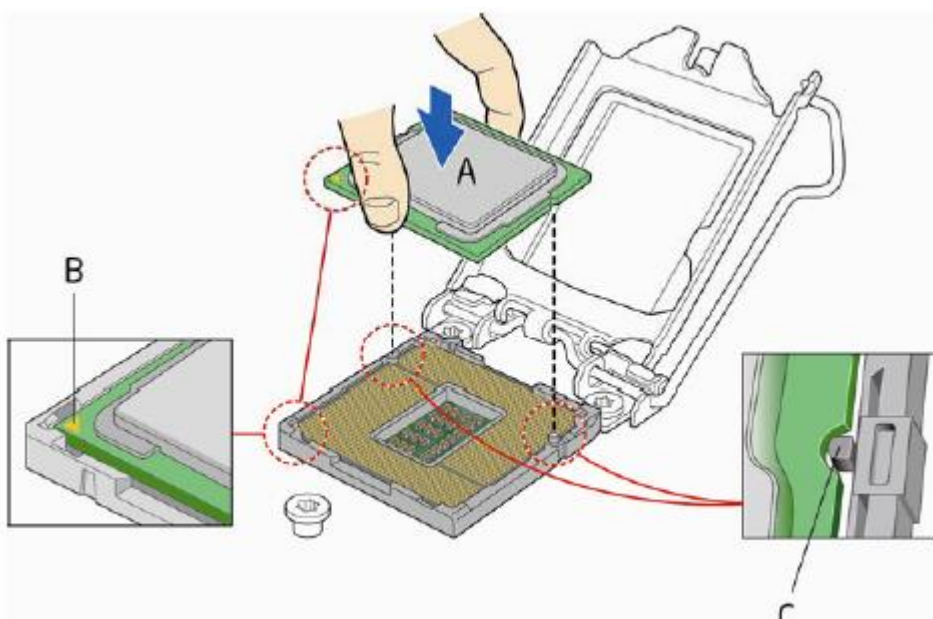

Figure 21: Install the processor
3. Remove the processor from its protective cover. Hold the processor only at the edges, being careful not to touch the bottom of the processor (see Figure 21).